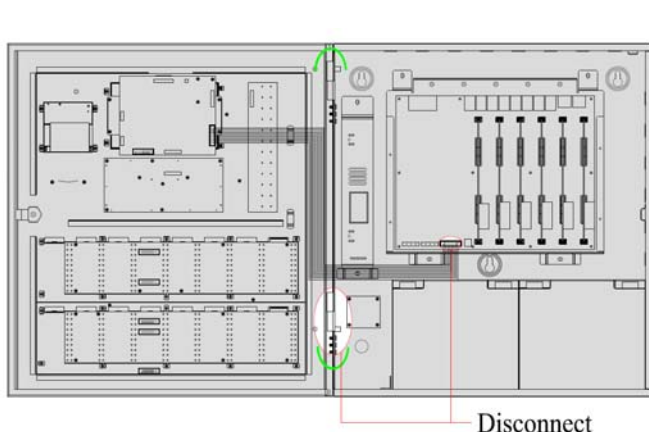

Figure 4: Cable disconnection
- Open the panel. Locate and unplug the 20 pin flat ribbon [printed P1 to main ports] cable between the Main Board and the Power Board end. Disconnect the enclosure grounding [Fig. 4].